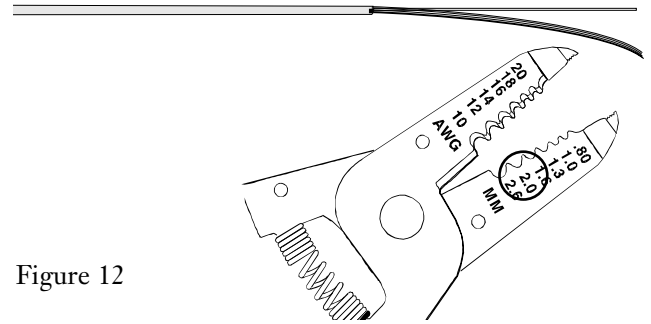

Figure 12
**5.2** Use the 2.0 mm opening on the buffer stripping tool to cut the first subunit jacket at the strip point. Slide the jacket off of the fiber (Figure 12).